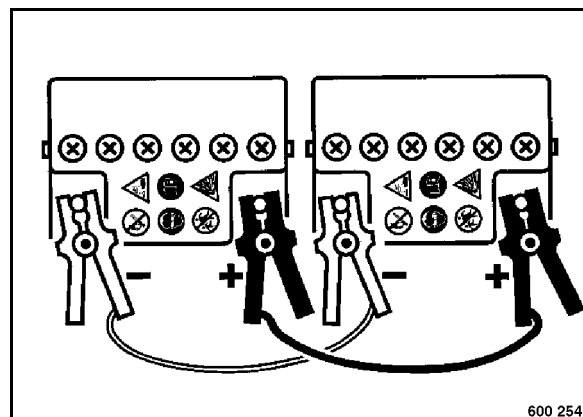

Fig. 23
- Join the plus poles on external battery and starter battery with the jump wire (Fig. 23).